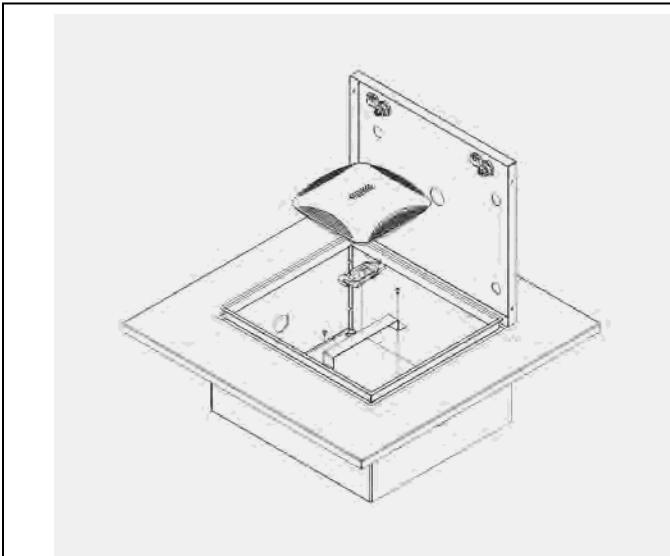

Figure 2
Step 2b – (Any manufacturer's access points) Install the provided "T-Bar" bracket by fastening two (2) #8-32 nuts onto the studs at the bottom of the enclosure. Attach the access point to the T-Bar bracket using the manufacturer's instructions for attaching the access point to a ceiling tile grid (T-Bar). (Figure 2).